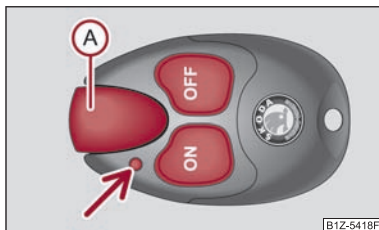

Fig. 110 Auxiliary heating: Radio remote control
If the battery is properly charged, the effective range is up to 600 m. For switching on or off the auxiliary heating, hold the remote control vertically with the antenna (A) ⇒ fig. 110 towards the top. You must not cover over the antenna with the fingers or the palm of the hand. Obstacles between the radio remote control and the vehicle, bad weather conditions and a weaker battery can clearly reduce the range.
The warning light in the radio remote control ⇒ fig. 110 indicates after a keystroke if the remote control signal was received by the auxiliary heating and if the battery is adequately charged.
If the warning light of the radio remote control indicates a weak or discharged battery, ⇒ page 102, fig. 110, it must be replaced. The battery is located under a cover on the back of the radio remote control.